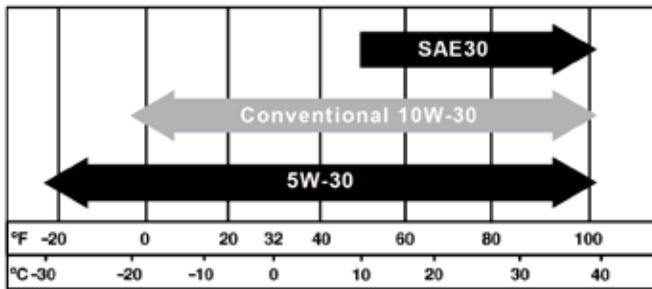

Figure 21 - Recommended Oil
1. Only use the engine oil specified in Figure 21.
6. Select the proper engine oil as specified in Figure 21.